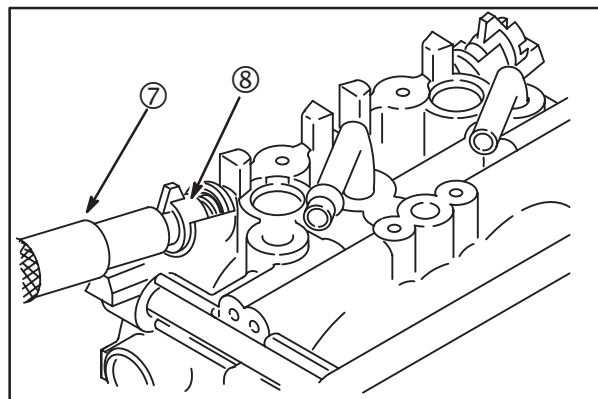

Fig. 22
- a. Position limiter cap (8) so that stop on limiter cap is at mid point between stops on carburetor body. Press limiter into position using Knock Out Pin #19135 (7) as shown in, **Fig. 22**.